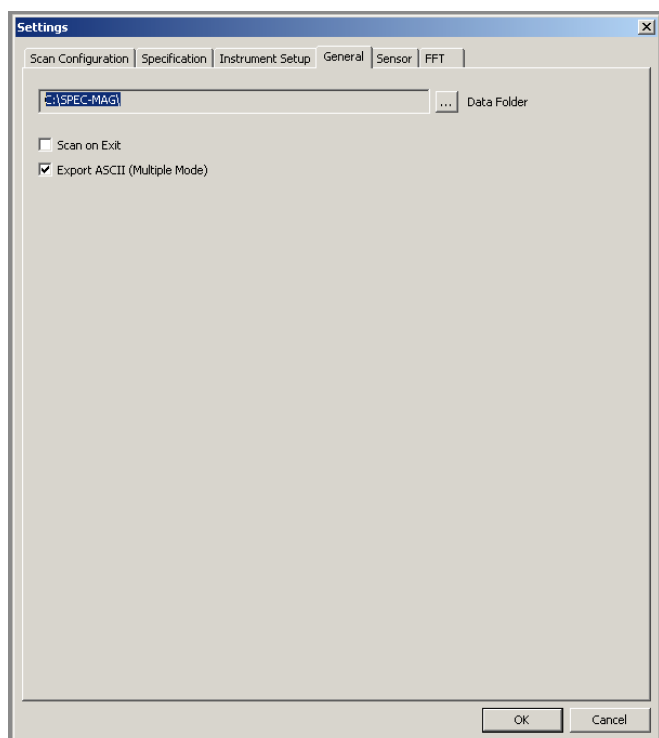

Figure 14d. Process of data acquisition.
(4) In the **General** sub-menu (**Figure 14d**):
(5) The **Sensor** sub-menu (**Figure 14d**) is broken into three groupings namely: (i) **Units** (ii) **Input Scaling** and (iii) **Custom Scaling**.